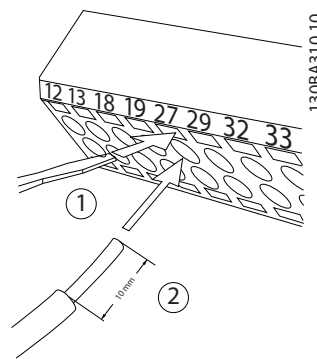

Figure 2.30 Connecting Control Wiring
1. Open the contact by inserting a small screwdriver into the slot above or below the contact, as shown in Figure 2.30.